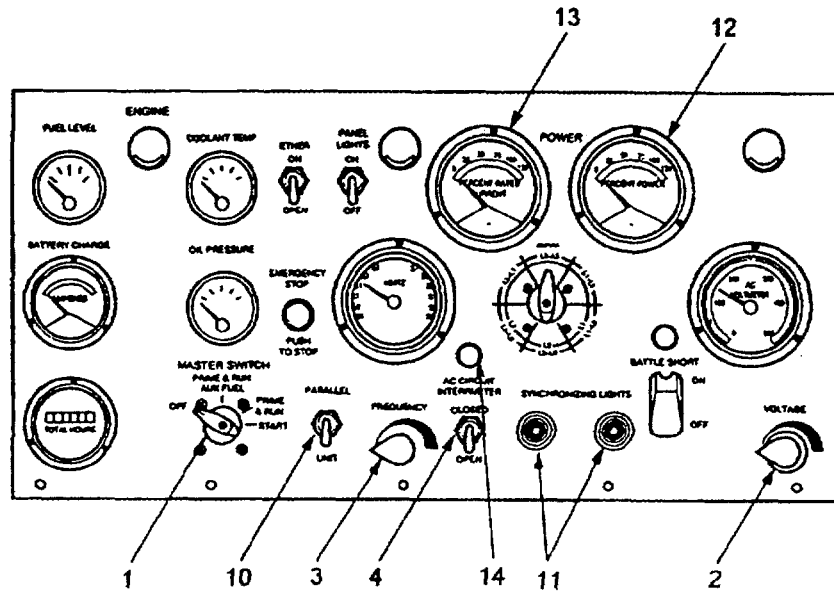

Figure 2-9. Load Transfer Operation.
- c. On operating generator set, set UNIT-PARALLEL switch (10, figure 2-9) to PARALLEL.
- e. At switch box, set generator set input switch S1 or S2 (7 or 8) to ON (up) (Switch box indicator lights DS1 (5) and DS2 (6) should be lit).
- (1) Set UNIT-PARALLEL switch (10) to PARALLEL